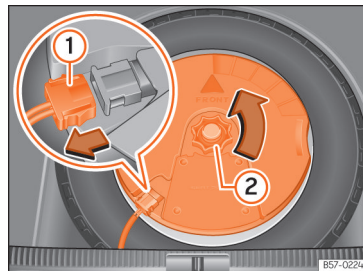

Fig. 287 In the boot: remove the subwoofer.
- Disconnect the cable for the subwoofer speaker »» Fig. 287 ①.
- Turn the securing wheel anti-clockwise ②.